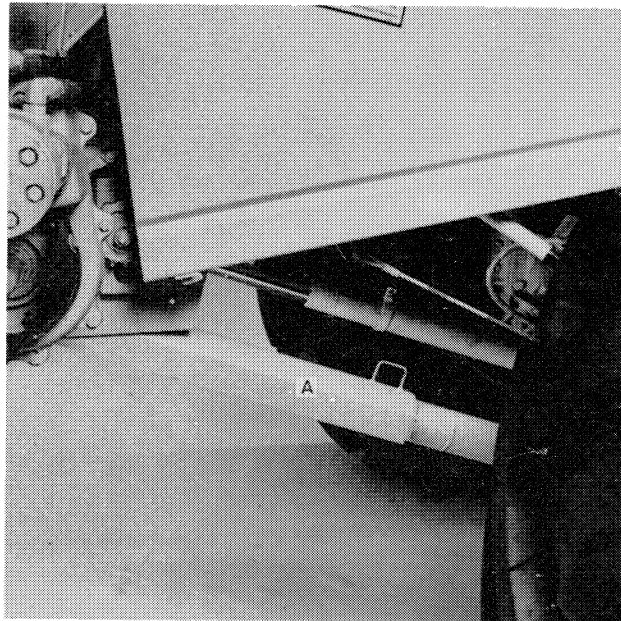

Figure 0-1
- C. LOWER THE CORN HEAD TO THE GROUND, OR RAISE THE HEAD COMPLETELY AND LOWER CYLINDER STOP, A, FIGURE 0-1. THIS STOP WILL PREVENT THE CORN HEAD FROM LOWERING.**
- 10. NEVER DISCONNECT OR MAKE ANY ADJUSTMENTS TO THE HYDRAULIC SYSTEM UNLESS THE CORN HEAD IS LOWERED TO THE GROUND OR THE CYLINDER STOP IS IN THE DOWN POSITION AS SHOWN IN FIGURE 0-1.**